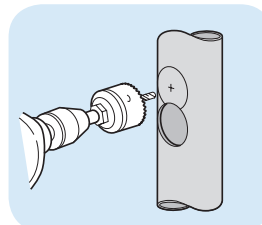

Fig. 17
- Drill two overlapping holes of correct size at 45mm centres (Fig. 17).